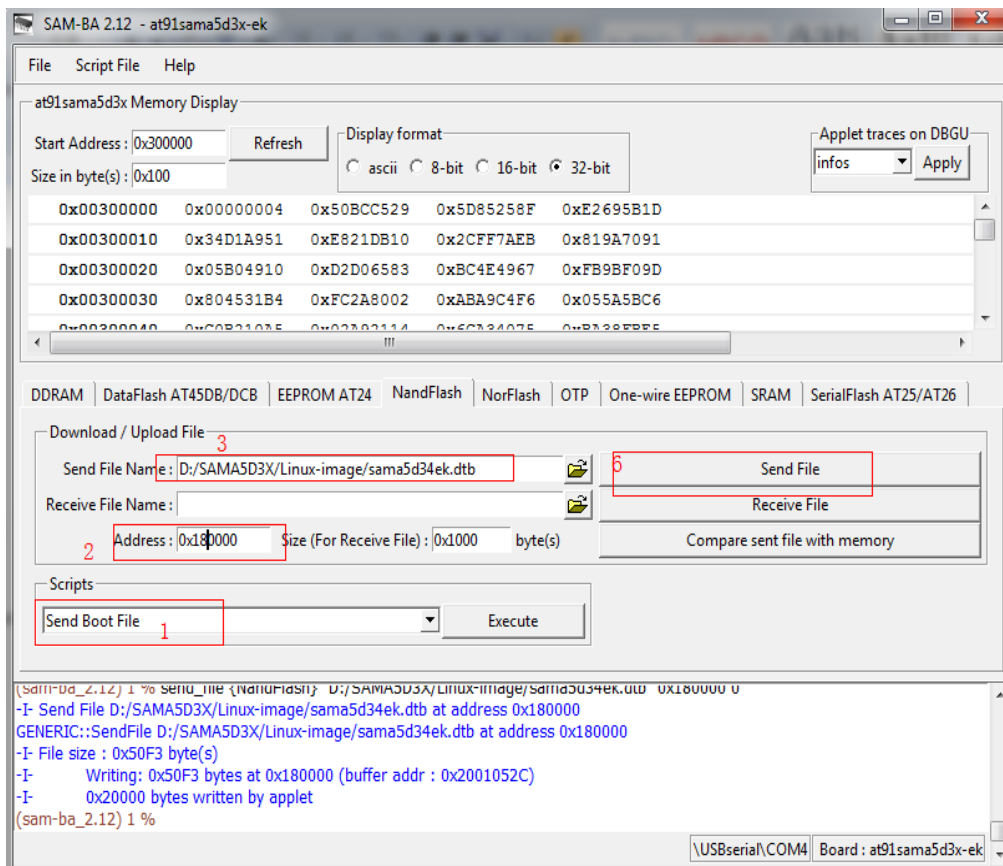

Figure 3-14
- ⑦ Download [sama5d3xek.dtb ] to 0x0018 0000. Refer to figure 3-14: